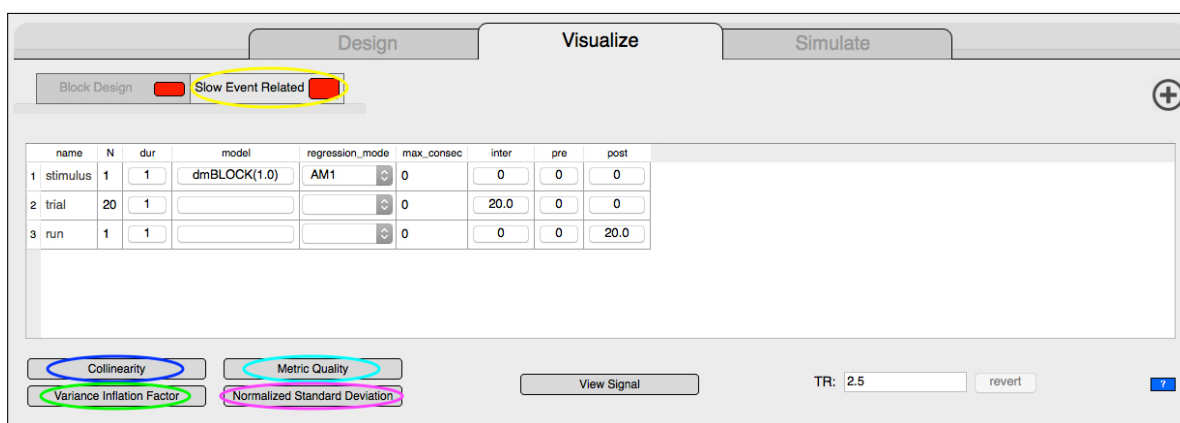

Figure 26: Visualize Quality Measures
1. Right click on your Slow Event Related design tab, Figure 26, yellow circle.
3. You can keep the default design name (Slow Event Related (2)). This will duplicate this variant so that you can change one parameter and compare.